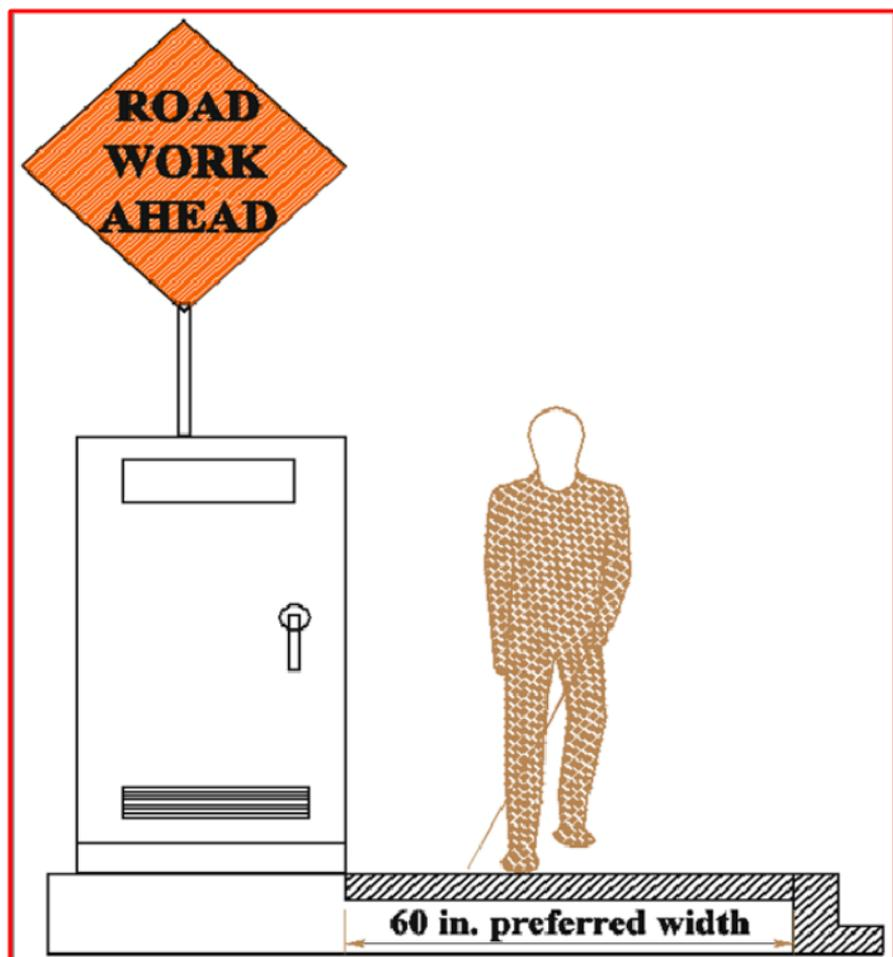

Figure 5. Preferred Pedestrian Path Width
- When feasible, a width of 60 inches should be maintained throughout the pedestrian pathway. (See Figure 5.)